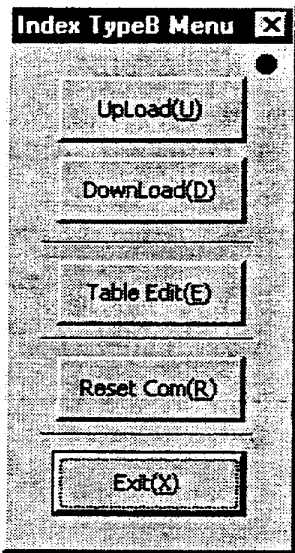

Figure 7.43 "Index TypeB Menu" dialog box
(6) Unequal division
Click "Index TypeB (O)" in the "Index compensation" dialog box to display the "Index TypeB Menu" dialog box (see Figure 7.43).